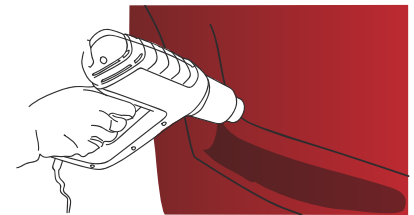

Figure 11
- › Once this step is completed, heat again all the hollow parts which have undergone heavy deformation between 80 °C and 90 °C (176 °F and 194 °F) to thermoform the product definitively. (FIG. 11)